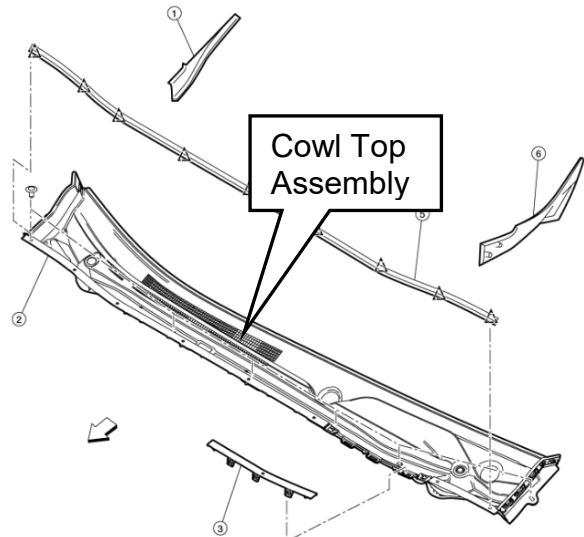

Figure 23
18. Install cowl top assembly (Figure 23).